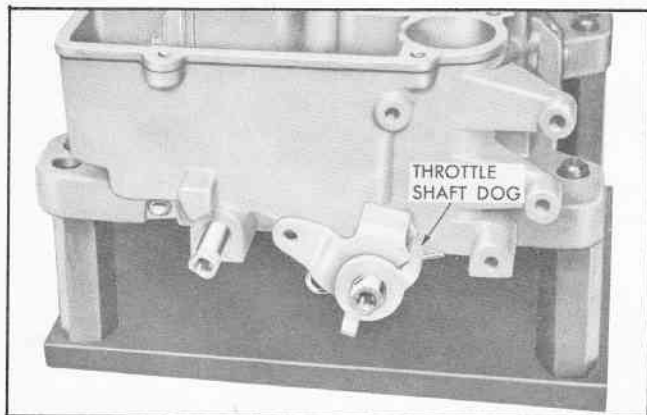

Fig. 18 Throttle Shaft Dog Installed
7. Install throttle shaft dog on primary throttle shaft (Fig. 18).